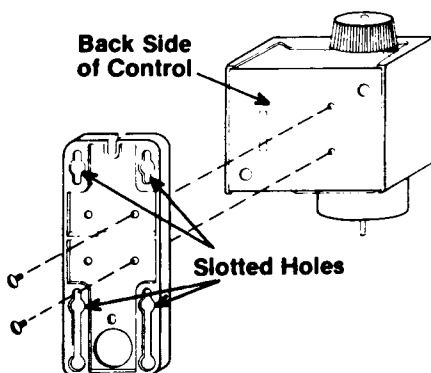

Figure A-1 Vertical Mounting
The bracket can be mounted either vertically or horizontally (see figures A-1 and A-2). When vertical mounting is desired the bracket should be installed with the knock-out hole at the bottom of the control. This will insure proper alignment with mounting patterns of other controls and will allow for the use of the knock-out hole for wiring in flush mounted installations.
2. With the bracket attached, mount the control to a wall or any flat surface using a combination of any two or more of the six slotted holes and the one open slot in the bracket. (See Figure A-1). Replacement of a narrower control is made easy by aligning some or all of the existing mounting holes with those of the bracket.